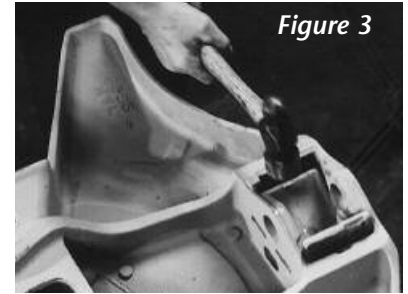
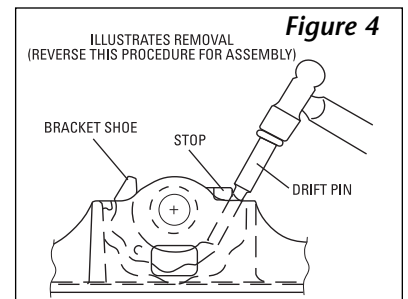
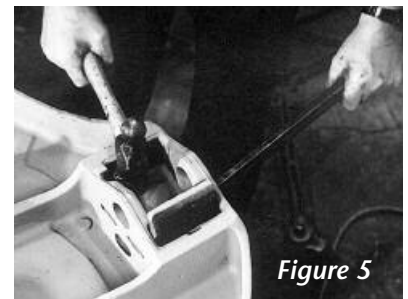

Figure 3
Figure 4
Figure 5
5. Drive out the bracket shoes at both sides with a hammer (Figure 3) and a drift pin (Figure 4) or similar tools at the bracket shoe stop side of the plate casting pocket. A screwdriver may be wedged between the bracket shoe and pad to assist in bracket shoe removal (Figure 5).